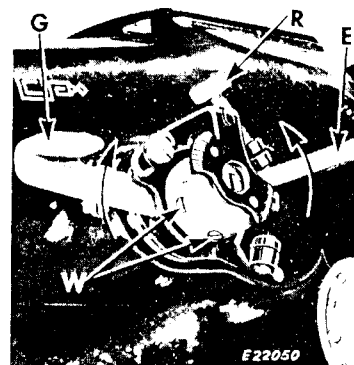
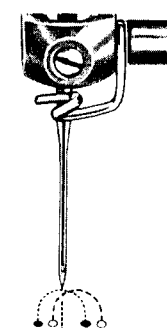
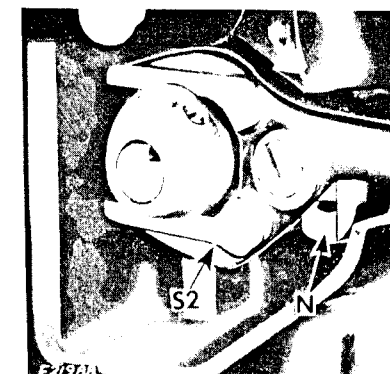

Fig. 59
Fig. 60
Fig. 62. Needle Vibrator Slideway
Check the two extreme positions of the needle at maximum bight, by means of the needle-perforation test, first with the position lever at its lowest (central) setting and then with the position lever at its highest (left-hand) setting, as shown in **Fig. 59**. The two extreme positions of the needle at left-hand setting should respectively coincide with the two extreme positions of the needle at central setting.
If the two perforations made at left-hand setting of the position lever are to the right of the perforations made at central setting, as shown in **Figs. 60 and 61** hold bight control lever **E**, securely, at maximum bight and position lever at its highest position, as shown in **Fig. 59**, while loosening screws **W**, **Fig. 59**, on hub of bight control lever and rotating slideway **N**, **Fig. 62**, at rear of machine over toward machine pulley to a position where the needle perforations coincide. Then securely tighten screws **W** and recheck.
**NOTE:** Coordination of the two positions of the needle at central and left-hand settings can be **tested** also by setting the bight control lever at maximum bight and, moving the position lever several times between its highest and lowest points, while watching the vibrator fork connection **S2**, **Fig. 62**, page 25, in the rear of the machine. There will be no movement whatsoever of the vibrator fork connection **S2** during this test, if the bight control is properly adjusted. **Adjustment** is accomplished in the same manner as instructed on page 25.